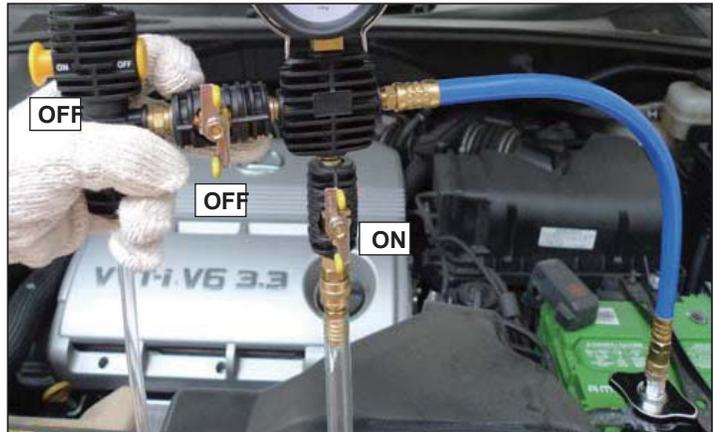

FIGURE 3
- Connect the Coolant Hose to the Coolant Hose Connector (H).
- Open the Coolant Valve (F) (while the Air Valve (C) is closed and the Air Switch (E) remains OFF), coolant will flow into the radiator immediately (as in Figure 3).